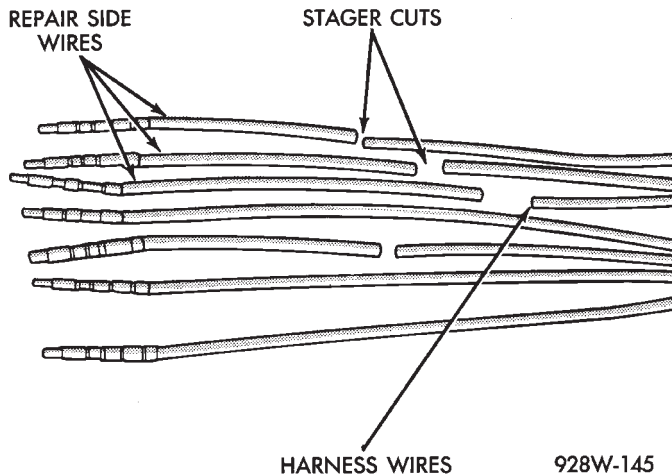

Fig. 13 Stagger Cutting Wires
(1) Disconnect battery.
(2) Disconnect the connector (that is to be repaired) from its mating half/component.
(3) Cut off the existing wire connector directly behind the insulator. Remove six inches of tape from the harness.
(4) Stagger cut all wires on the harness side at 1/2 inch intervals (Fig. 13).
(5) Remove 1 inch of insulation from each wire on the harness side.
(6) Stagger cut the matching wires on the repair connector assembly in the opposite order as was done on the harness side of the repair. Allow extra length for soldered connections. Check that the overall length is the same as the original (Fig. 13).
(7) Remove 1 inch of insulation from each wire.